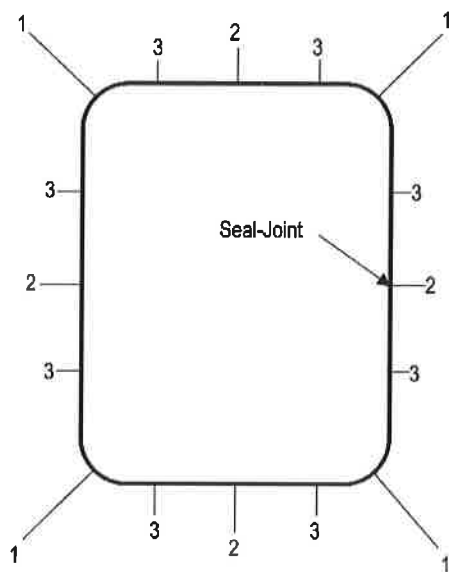

Figure16-6: replace door seal
- Insert a seal as follows (refer to Figure16-6)